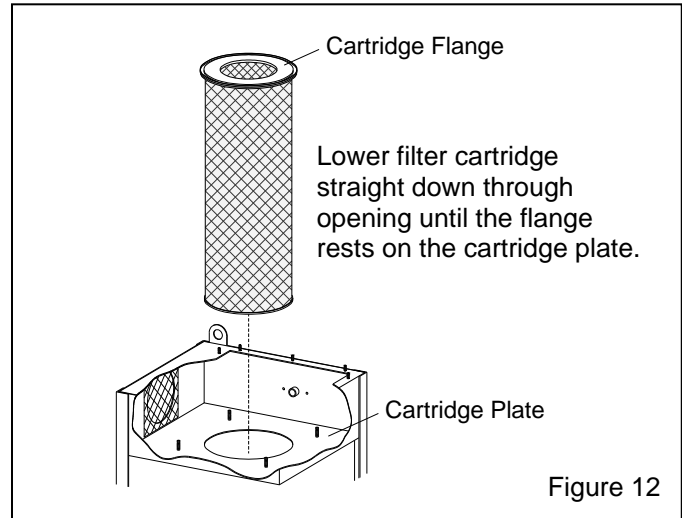

Figure 12
2.12.5 Make sure the top of the cartridge plate is clean, then lower the cartridge into the opening as shown in Figure 12 until the cartridge flange rests on the cartridge plate.